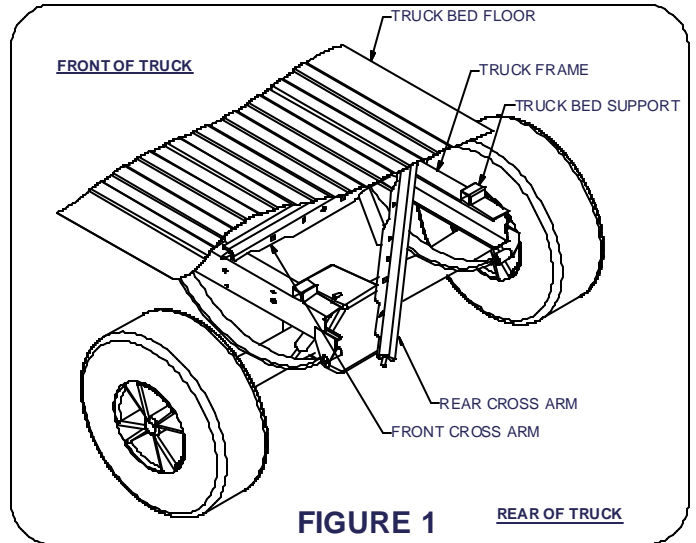

FIGURE 1 REAR OF TRUCK
- 2) Install the cross arms by sliding end into gap between the truck bed and frame on the passenger side. Swing other end between the truck bed and frame gap on the driver's side. **(Note: Holes in the cross arm must face each other as shown in Figure 1.)**